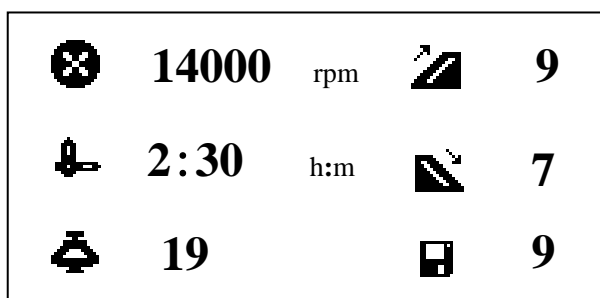

Figure 7-2 Preparation mode interface
■ This centrifuge will move to a preparing screen after passing the self-checking step, and display the running parameters of the last time. For example, the Figure 7-2 shows that the speed was set to be 14000rpm, the running time was 2 hours and 30 minutes, the acceleration rate was 9, the deceleration rate was 7, the rotor ID was 19, and the program group number was 9.
Figure 7-2 is only an example. User's setting parameters and running parameters may be different from that in the figure.